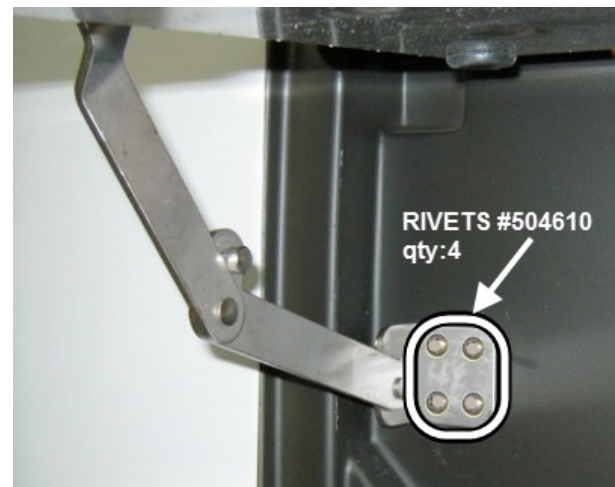

FIGURE 56
17. Reinstall the folding arm. Secure the folding arm as shown on FIGURE 56 using four 1/4" x 5/8 stainless steel rivets #504610.